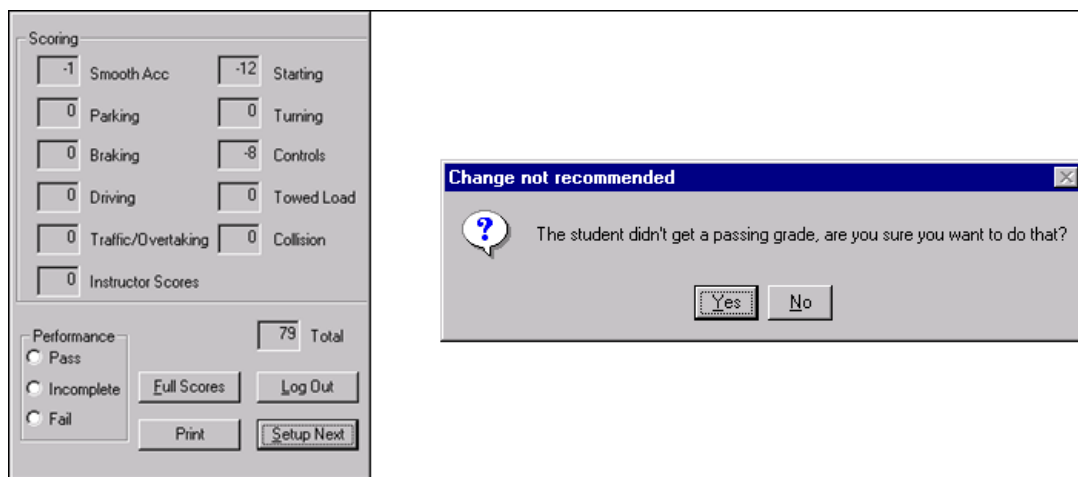

Figure 174. Scoring Window – Passing a Student
3. The instructor has the ability to pass a student even if the student does not receive a passing score of 80 points or more. You will receive the "Change not recommended" message on the right if you select pass (Figure 174). The instructor also has the ability to fail the student even if the system shows that they received a score of 80 points or more.